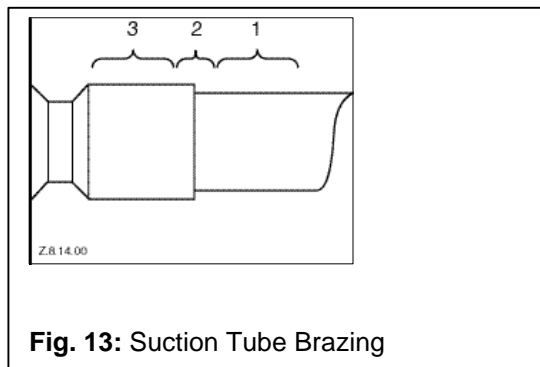

Fig. 13: Suction Tube Brazing
Compliant Scroll compressors have copper plated steel suction and discharge tubes. These tubes are far more robust and less prone to leaks than copper tubes used on other compressors. Due to the different thermal properties of steel and copper, brazing procedures may have to be changed from those commonly used. For brazing of the tubes see **Fig. 13** and the following procedures.
Fig. 13 shows the proper procedures for brazing the suction and discharge lines to a scroll compressor. It is important to flow nitrogen through the system while brazing all joints during the system assembly process. Nitrogen displaces the air and prevents the formation of copper oxides in the system. If allowed to form, the copper oxide flakes can later be swept through the system and block screens such as those protecting capillary tubes, thermal expansion valves, and accumulator oil return holes. The blockage – whether it be of oil or refrigerant – is capable of doing damage resulting in compressor failure.
- Recommended brazing materials: Silfos with minimum 5% silver or silver braze used on other compressors. Due to the different thermal properties of steel and copper, brazing procedures may have to be changed from those commonly used. For brazing of the tubes see **Fig. 13** and the following procedures.
The Scroll compressors are available with stub tube or a combination Rotalock connections and flanged connections. The stub tube version has copper plated steel suction and discharge fittings. These fittings are far more rugged than copper fittings used on other compressors. Due to the different thermal properties of steel and copper, brazing procedures may have to be changed from those commonly used. See **Fig. 13** for assembly line and field brazing procedures. The table below contains torque values for those compressors with valve connections.
Caution! Before opening a system it is important to remove all refrigerant from both the high and low side. If the refrigerant charge is removed from a scroll-equipped unit by bleeding the high side only, it is possible for the scrolls to seal, preventing pressure equalization through the compressor. This may leave the low side shell and suction line tubing pressurized. If a brazing torch is then applied to the low side while the low side shell and suction line contains pressure, the pressurized refrigerant and oil mixture could ignite when it escapes and contacts the brazing flame. To prevent this occurrence, it is important to check both the high and low side with manifold gauges before unbrazing. Instructions should be provided in appropriate product literature and assembly (line repair) areas. If compressor removal is required, the compressor should be cut out of system rather than unbrazed. See **Fig. 13** for proper compressor removal procedure.